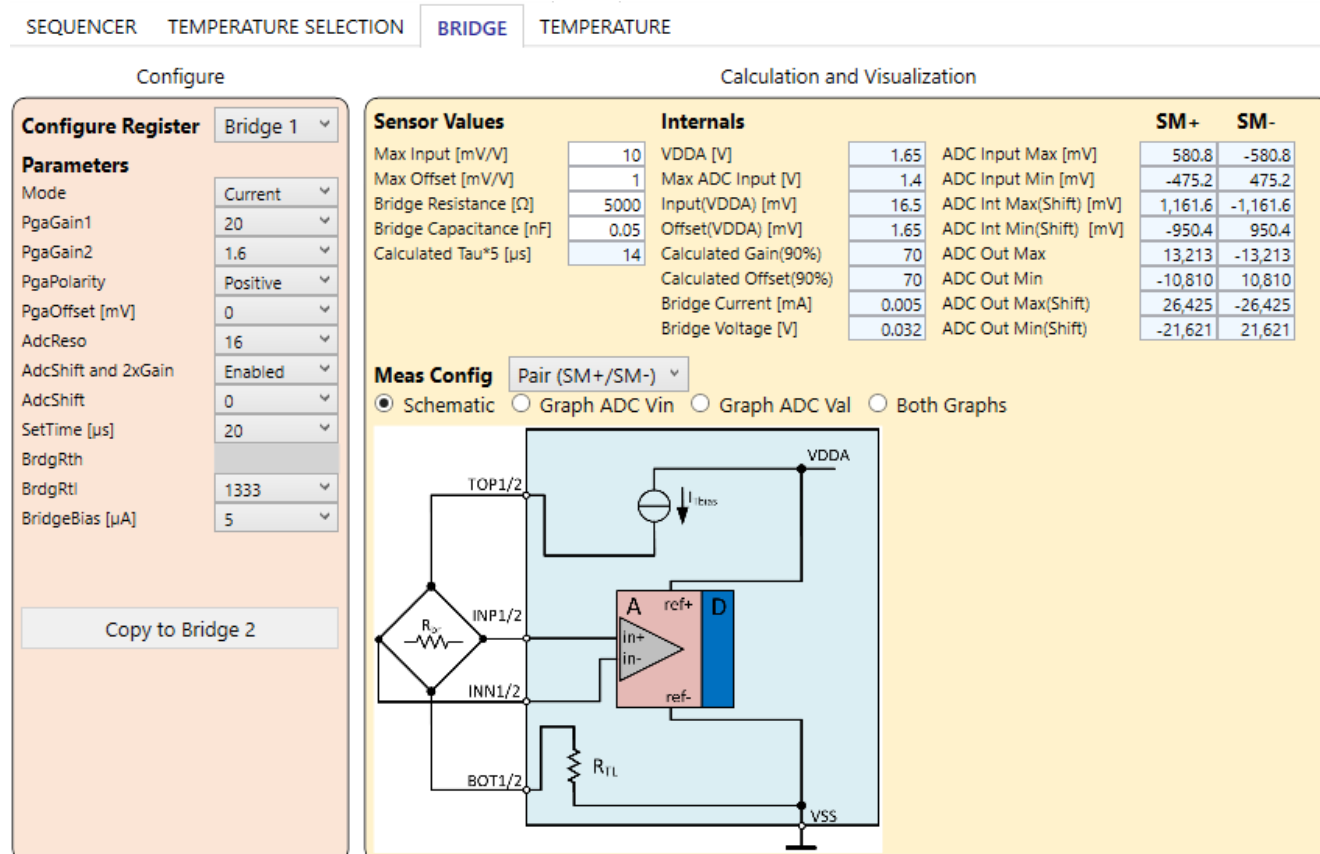

Figure 66. Current Mode
- Current: configurable internal current source with configurable internal series resistor, see Figure 66.